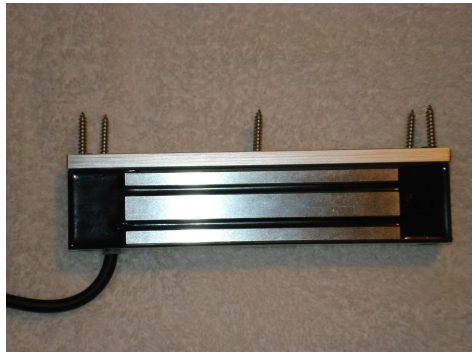
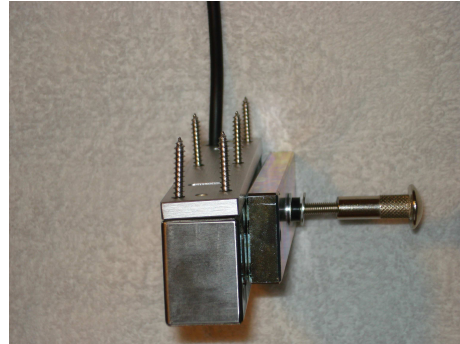

Figure 1
Figure 2
Step 1: Decide if you want to mount the maglock with the wire exposed (figure 1) or if you want it to enter the door jamb (figure 2). The same mounting bracket can be used for either situation. Most users choose the exposed wiring method and route the cable in a surface track to the maglock interface box.